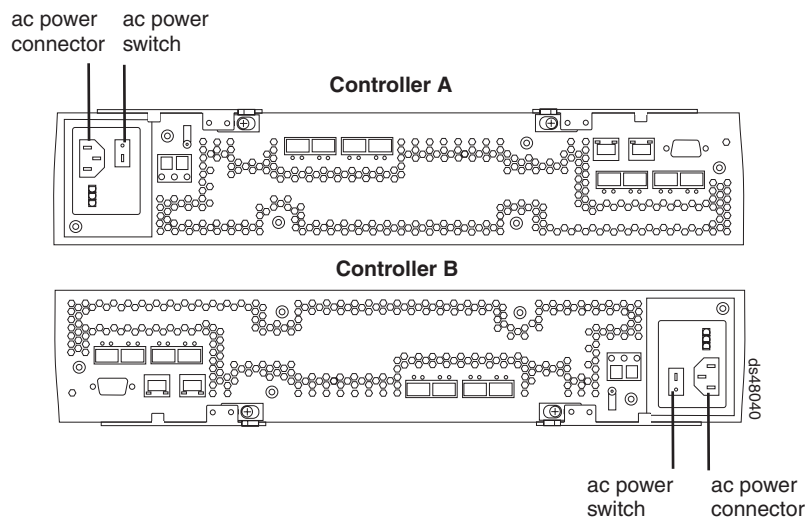

Figure 74. AC power switches on the controllers
5. Turn on the ac power switch on the back of each controller in the storage subsystem. Figure 74 shows the location of the ac power switches on the controllers.